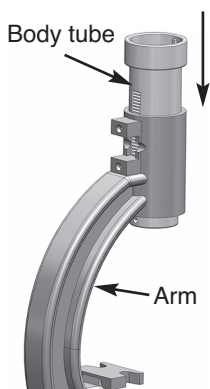

Figure 3
- ❑ Slide the body tube into the arm as shown in Figure 3.